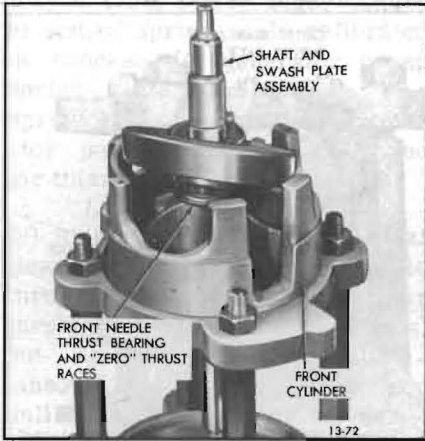

Figure 13-72—Shaft and Front Needle Thrust Bearing in Cylinder Half
2. Place front cylinder on top of compressing fixture (J-9397) as shown in Figure 13-72.
3. Generously coat with clean petroleum jelly two “zero” thrust races, and a new needle thrust bearing. Assemble races and bearing to front end of shaft and swash plate assembly and insert assembly into front cylinder (see Figure 13-72).
13. Remove cylinder assembly from inside compressing fixture (J-9397), place on top of compressing fixture (see Figure 13-72) and disassemble rear cylinder from front cylinder using rubber mallet and wood block.